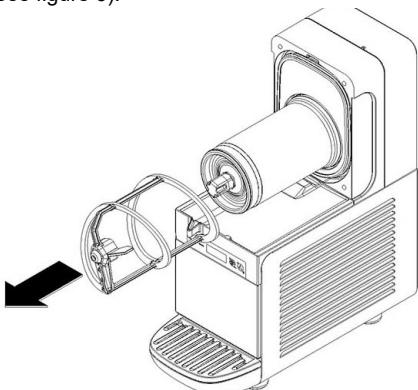

figure 5
- 3** Remove the external coil from the evaporator (see figure 5) and then the hexagonal coupling